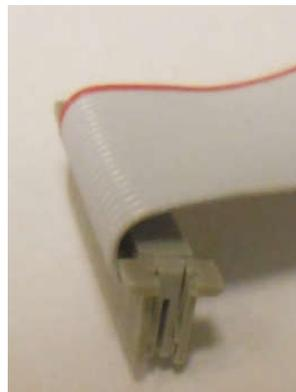

Figure 11
6.1 Fold the cable back over the cover. (See Figure 11)